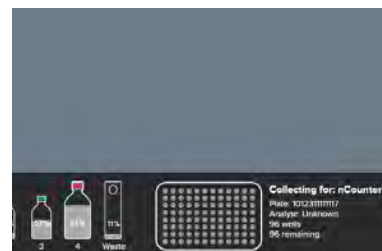

Figure 51: plate icon in GeoMx DSP Control Center
1. Double-click on the plate icon area at the lower right of the GeoMx DSP Control Center (see Figure 51). If the plate is not currently on the instrument, enter its barcode.